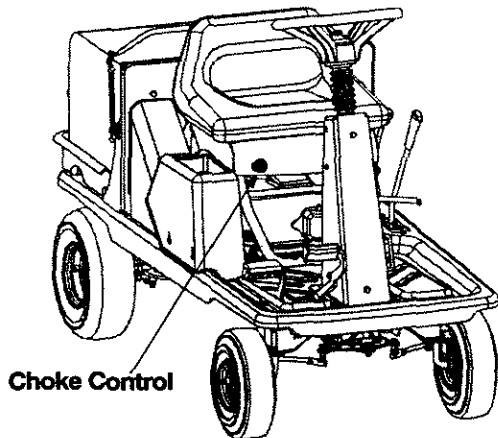

Figure 8
7. After the engine starts, press choke control inward, thus closing the choke. See Figure 8.